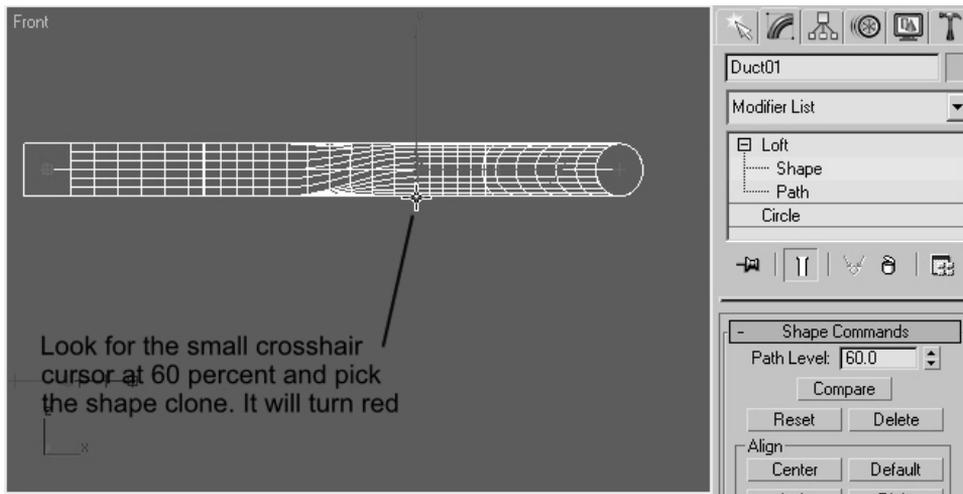

FIGURE 9.26 In Shape sub-object mode, select the clone shape at 60 percent along the path. It turns red when selected.
8. Loft objects also have sub-object levels. In the Stack view, expand Loft and highlight Shape in the list. On the main toolbar, click the Select Object button. In the Front viewport, move the cursor over the loft object and pick when you are over the shape clone at 60 percent and see the small crosshair cursor (see Figure 9.26). The clone shape turns red when selected.